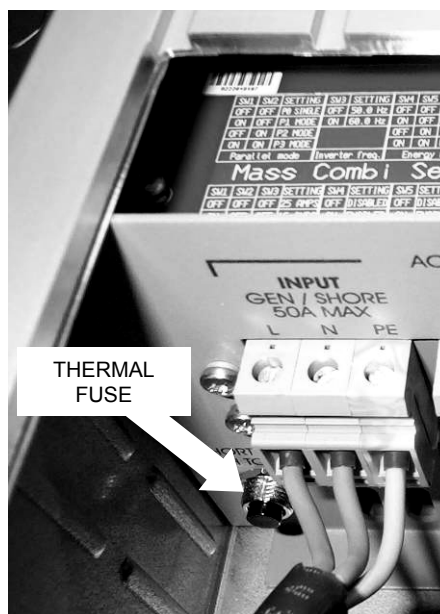

Figure 15: Reset of the thermal fuse
- 5 Wait for at least two minutes and then reset the thermal fuse by pushing the button inside the connection compartment (see figure 15).